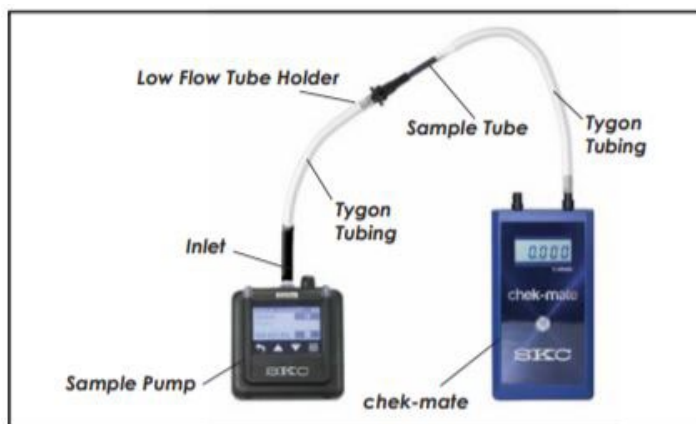

Figure 2. Flow rate verification train using a single (non-adjustable) low flow tube holder and Pocket Pump TOUCH
3. Verifying the Flow Rate — Figure 2